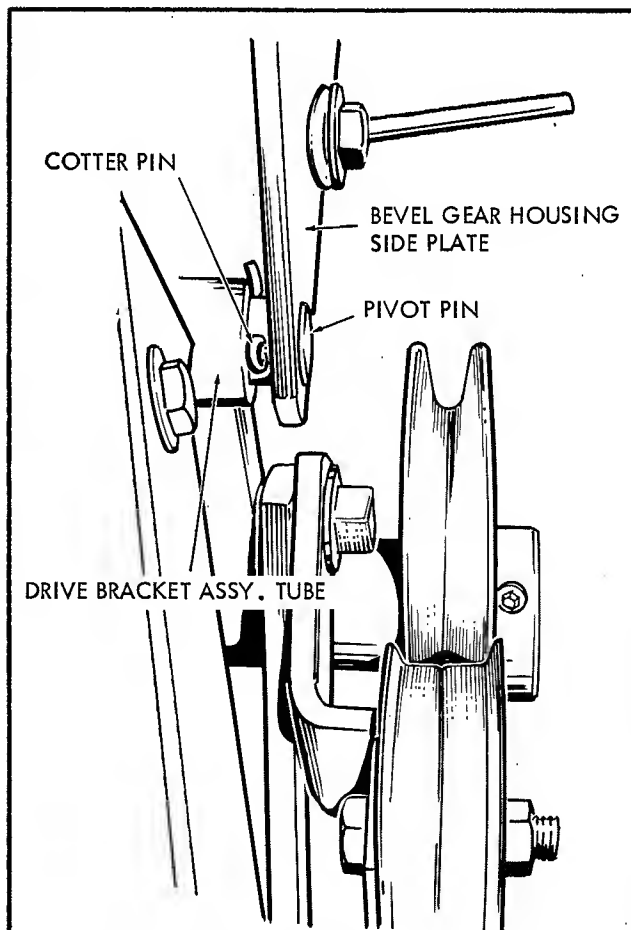

Fig. 3
3. Push pivot pin through the holes in bracket and tube until the position of cotter pin hole in pivot pin is as shown in Figure 3. Secure in position with cotter pin furnished.